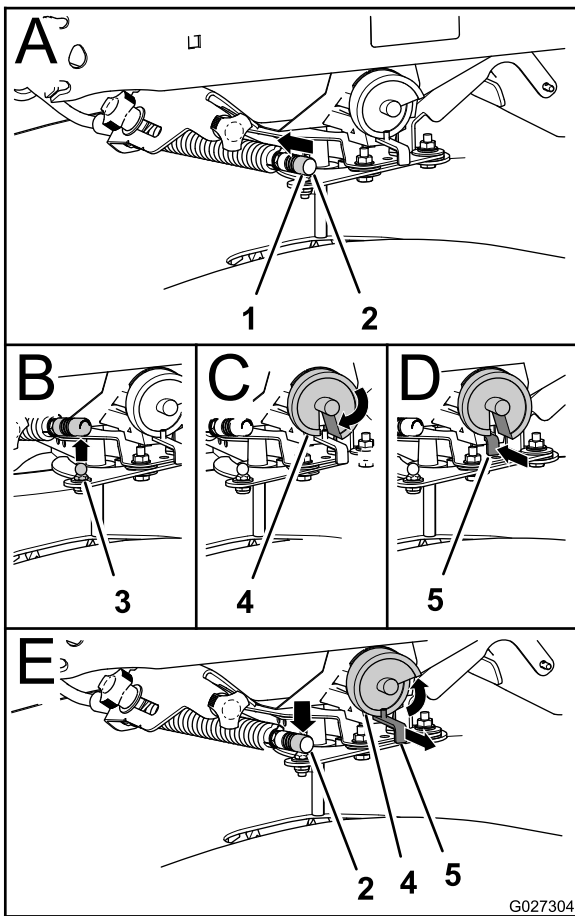

Figure 35
1. Push the locking sleeve for the gate cable rearward and lift the cable up from the ball stud of the rate-gate linkage (Figure 35).
2. Pull the cable off the ball stud (Figure 35).
3. Rotate the drop-rate cam past position-9 so that the slot in the cam aligns with the linkage (Figure 35).
4. Fully push the rate-gate linkage rearward (Figure 35).
1. Pull the linkage out until it clears the drop-rate cam (Figure 35).
3. Attaching the cable to the ball stud at the gate lever(Figure 35).